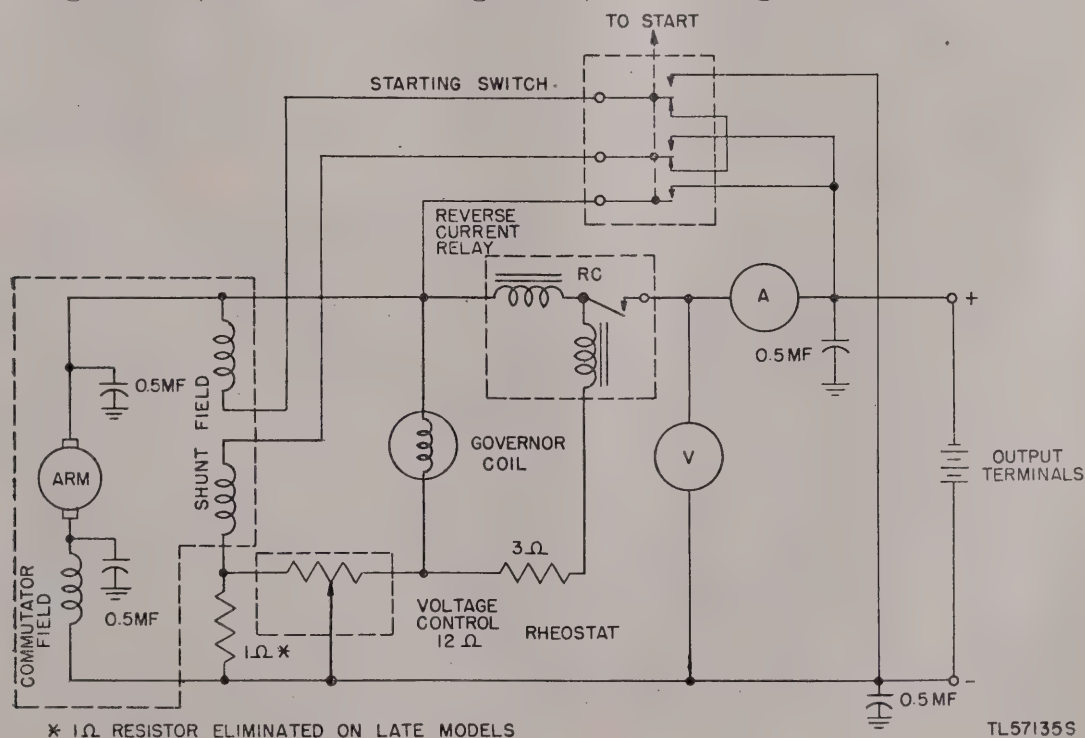

Figure 11. Electrical system, schematic diagram.
Use the ohmmeter range to determine the presence of shorts between any individual commutator segment and shaft of the armature. Disconnect alternate paths in the circuit under test. Consult the schematic and wiring diagrams (figs. 11 and 12) for wire colors and their terminals, to avoid the necessity for disassembling the generator or control box. The very low values of resistance of armature and field coils as well as the voltage and current coils in the control box will cause very slight readings on the instrument. Consideration must also be given to the higher resistance values of heated wire. Capacitors used on the control box and generator must be disconnected for high-resistance continuity tests.
- b. Wiring diagrams (figs. 11 and 12).